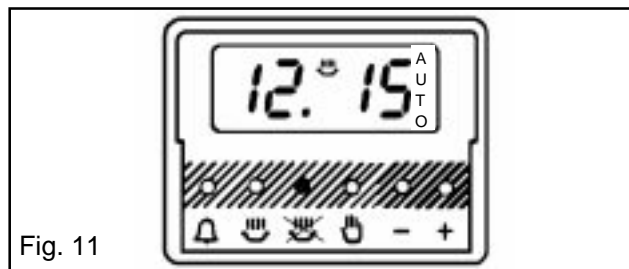

Fig. 11
- vi) To check the stop time during the cooking period, simply press the stop time button () and the stop time will be displayed, as Fig. 11.